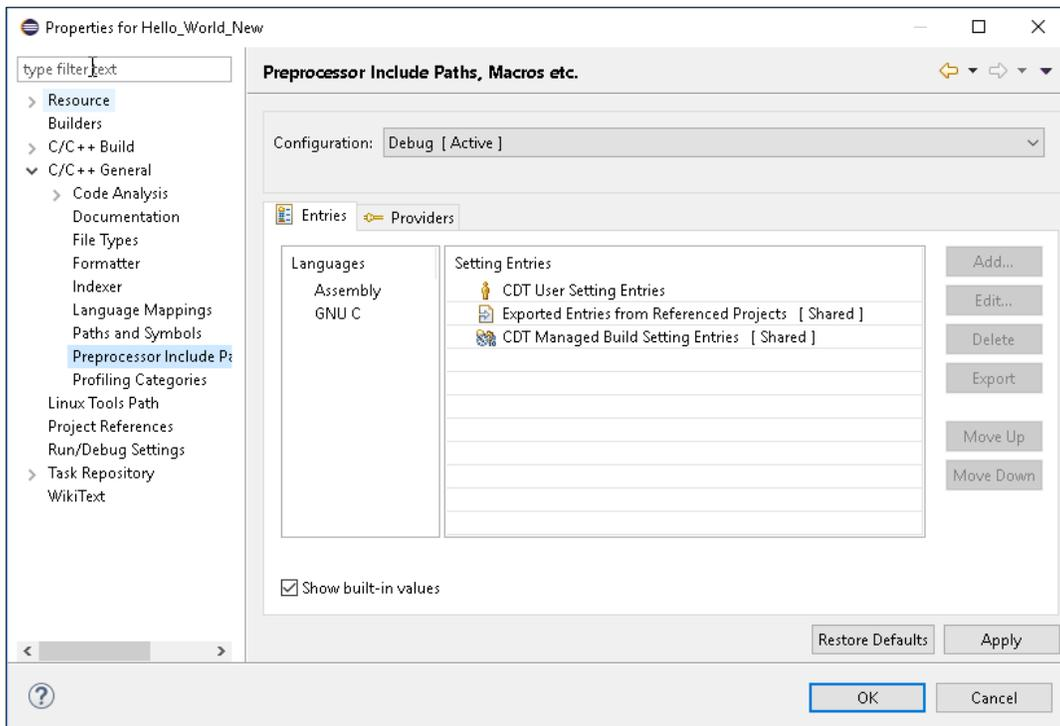

Figure 22. Preprocessor Include Paths, Macros etc. dialog box.
- Expand the **C/C++ General** option, and select **Preprocessor Include Paths, Macros etc.** The **Preprocessor Include Paths, Macros etc.** dialog box appears, as shown in **Figure 22**.